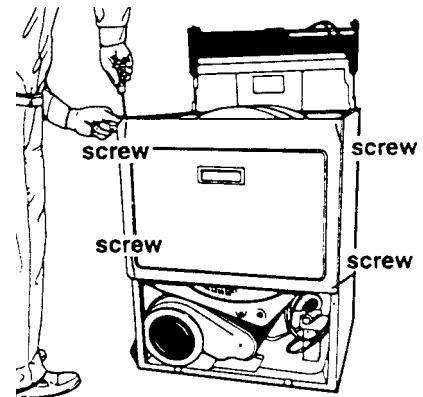

Fig. 38
4. Release the two (2) door springs.
6. Remove the two (2) screws at the bottom and the two (2) screws at the top of the front panel. (Fig. 38)